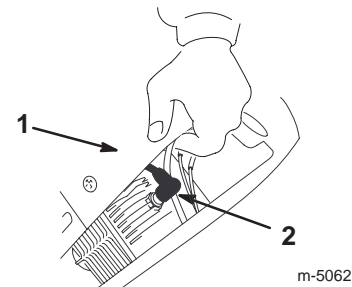

Figure 18
- Mounting screws (2)
- Lift up the shroud and disconnect the wire from the spark plug (Fig. 18).